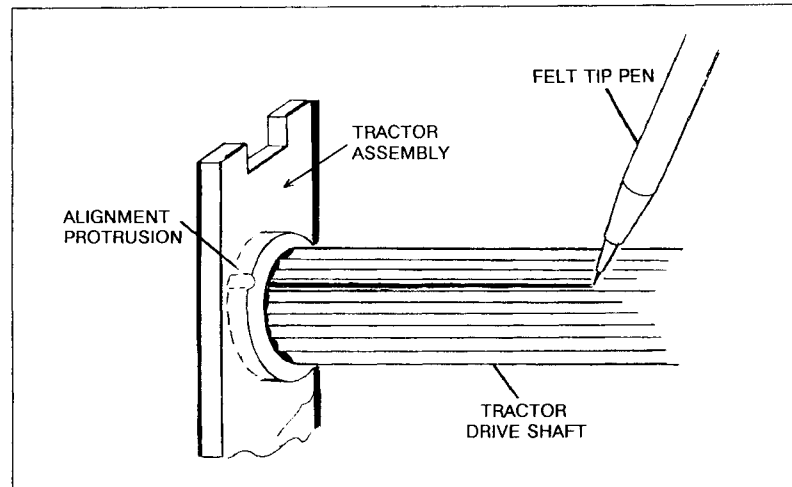

Figure 6-32. Aligning the Drive Groove with Left and Right Tractors
- d. Using a felt tip marker, mark the groove on the drive shaft that passes directly beneath the small protrusion on the tractor's drive hub (see Figure 6-32).